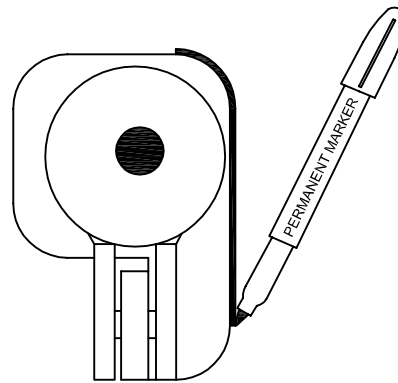

FIG. 2
5) Insert bolts and anchors into holes, tap with hammer until flush, and tighten securely. FIG. 2